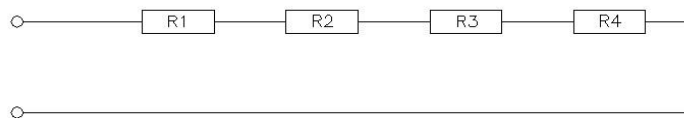

Figure 1
4. The resistances in Figure 1 series circuit are  $R_1 = 2\Omega$ ,  $R_2 = 4\Omega$ ,  $R_3 = 6\Omega$  and  $R_4 = 8\Omega$ . The applied voltage is 24 d.c. volts. What is the volt drop across each resistor in the circuit?